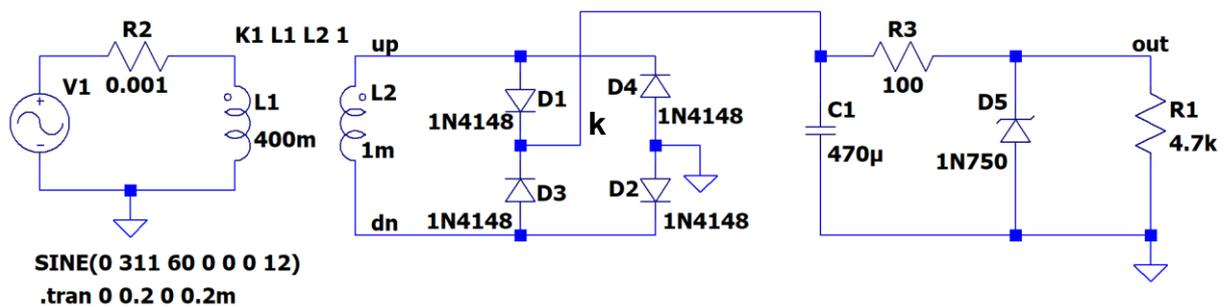

Figure 5.2 Regulated power supply.
18. Add a voltage regulator to your dc supply circuit as shown in Fig. 5.2. Change  $R_I$  back to 4.7 k $\Omega$ . Rerun the simulation.